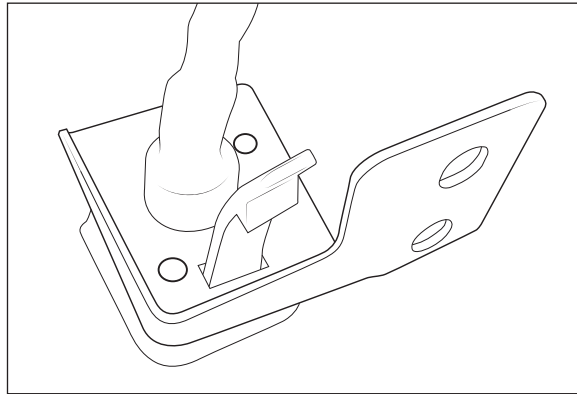

Figure 5
- Using the metal bracket as a template, mark two opposing holes onto the back-side of the metal bracket using a silver marker. Not all four holes will be used (fig. 5).